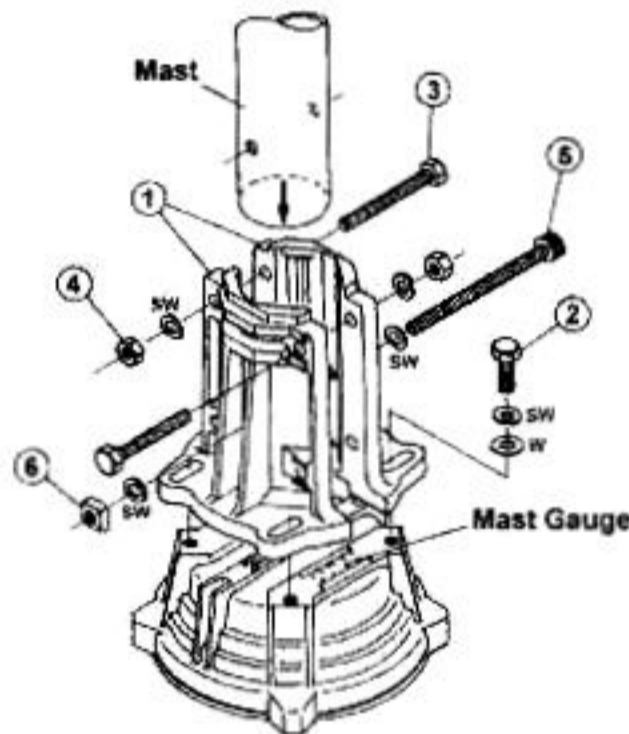

Figure 5
4. Partly tighten the mast clamp ① to the rotator housing using the supplied M8 x 25 bolts ②, spring washers and flat washers (see Figure 5).
5. Using a "gin pole" or other raising fixture, insert the antenna mast through the bearing from above, and set the mast in the rotator's mast clamps, then partly tighten the mast clamps using the supplied M8 x 70 bolts ③ and spring washer.
6. Pass the supplied M8 x 95 screw ⑤ through the mast clamps and through the mast, then partly tighten it using the supplied square nut ⑥.